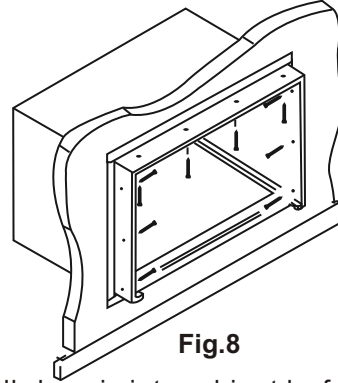

Fig.8
5. Screw or nail cabinet wooden frame using shims if frame is oversized, to eliminate distortion. See Fig.8. Remember to maintain proper slope as described in Step 3.